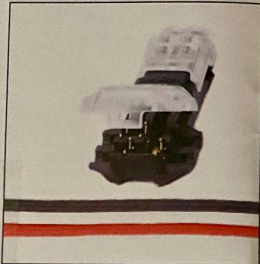

Fig. 1
1. Separate the wire first. (Fig. 1)